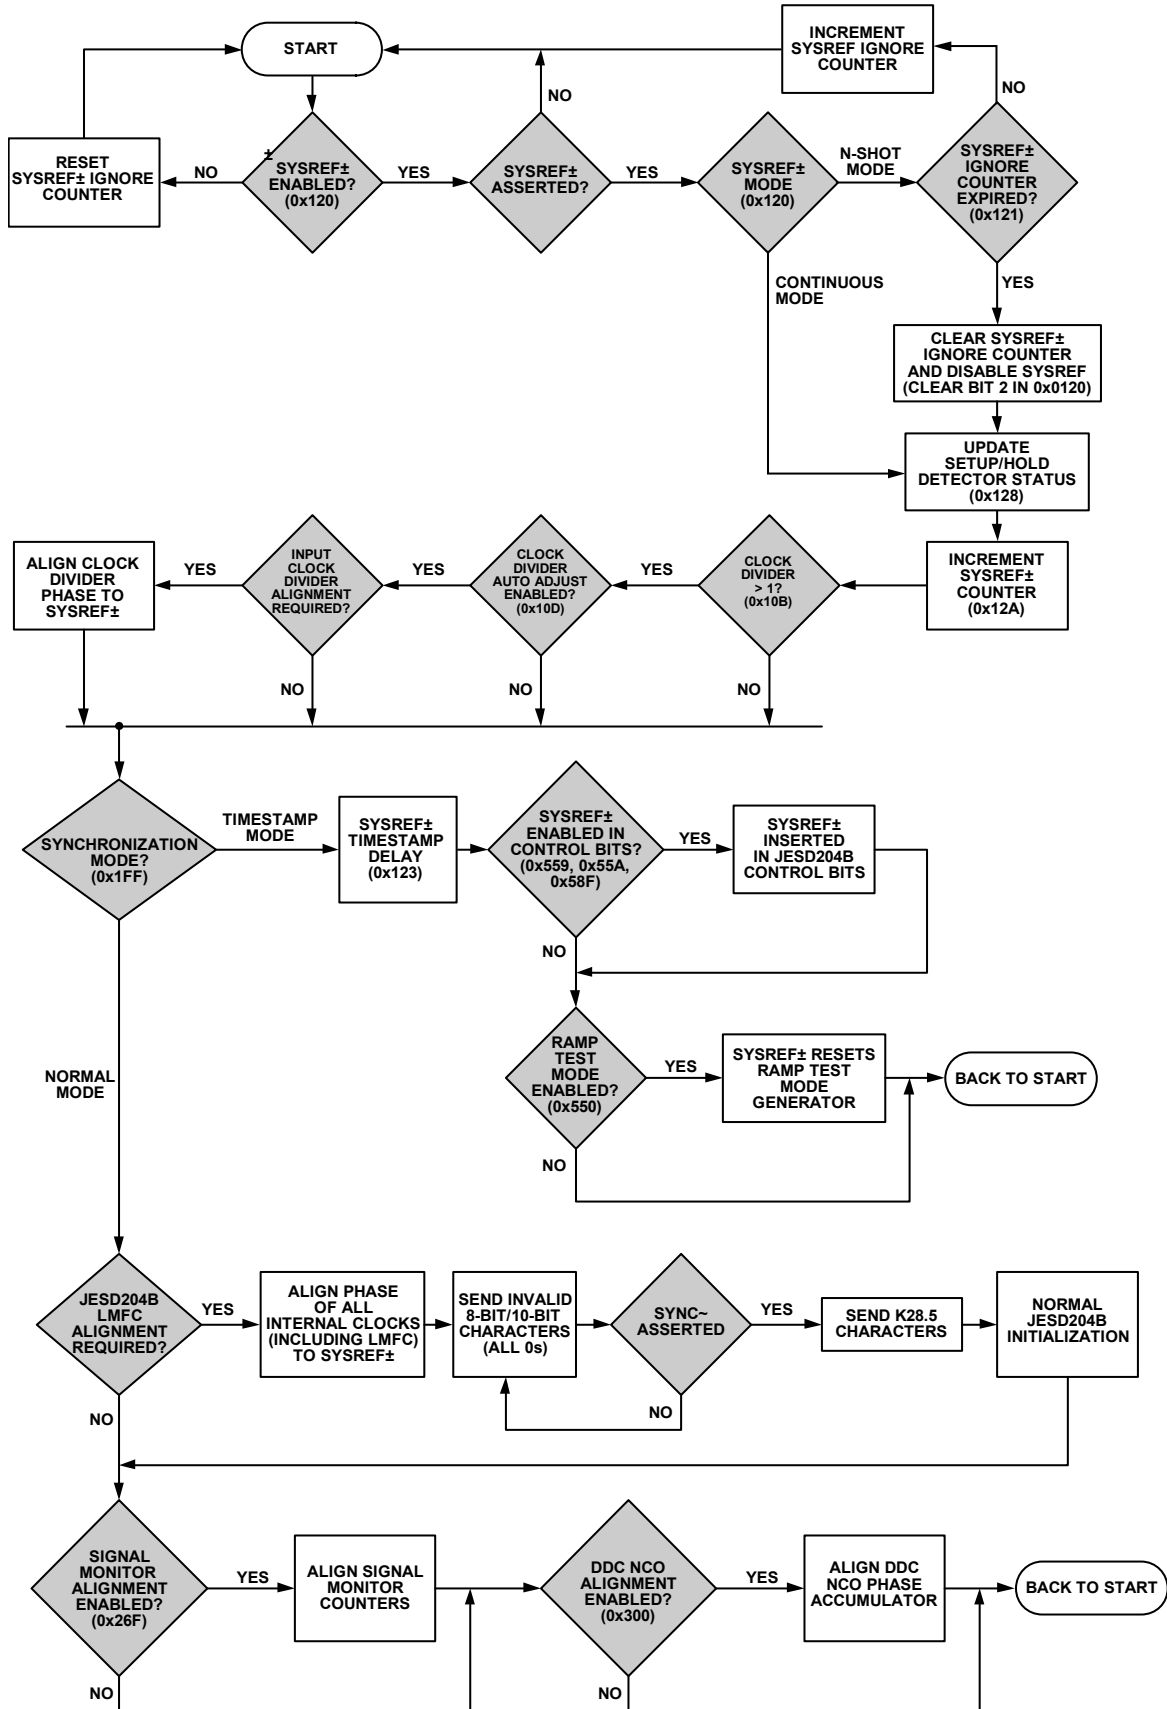

Figure 107. SYSREF± Capture Scenarios and Multichip Synchronization
The flowchart shown in Figure 107 describes the internal mechanism for multichip synchronization in the AD9234. There are two methods by which multichip synchronization can take place, as determined by the chip synchronization mode bit (Register 0x1FF, Bit 0). Both methods involve different $SYSREF_{\pm}$ signal applications.
The default state of the chip synchronization mode bit is 0, which configures the AD9234 for normal chip synchronization. The JESD204B standard specifies the use of $SYSREF_{\pm}$ to provide deterministic latency within a single link. This same concept, when applied to a system with multiple converters and logic devices, can also provide multichip synchronization. In Figure 107, this is referred to as normal mode. Following the process outlined in Figure 107 ensures the AD9234 is configured appropriately. Consult the respective ASIC or FPGA user intellectual property (IP) guide to ensure the JESD204B receivers are configured appropriately.